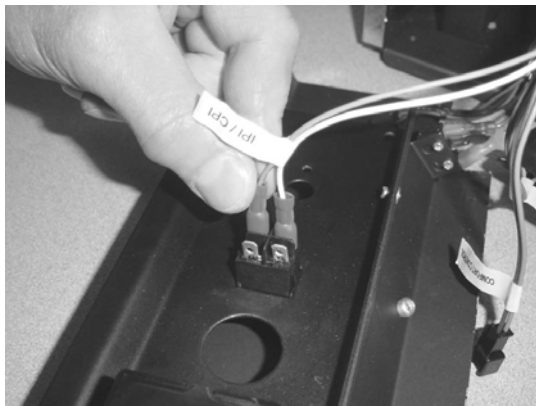
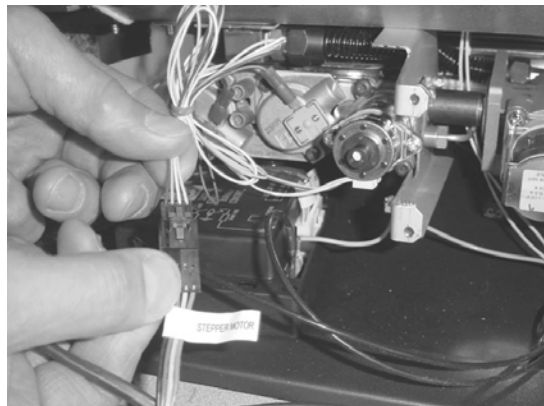

Figure 16
Figure 17
- 14 Attach the blue and white wires to the IPI/CPI switch (see Figure 16). Connect the wiring harness to the stepper motor (see Figure 17).